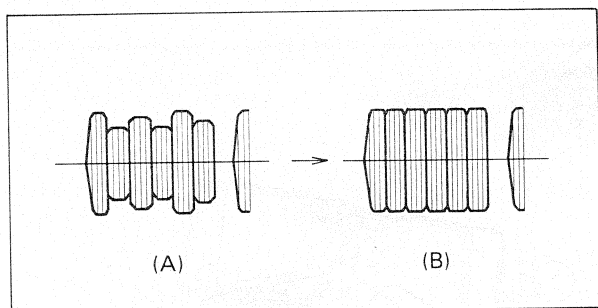

Fig. 2-13
- 3) Adjust T304 (BEL TRANSF) for the flat waveform as shown in Fig. 2-13 (B).